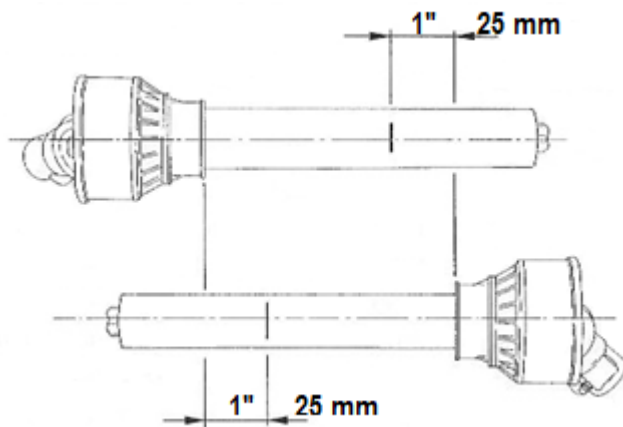

Fig. 5
6. With the two parts parallel, use a felt pen to mark the cutting point, as shown in Fig. 5.